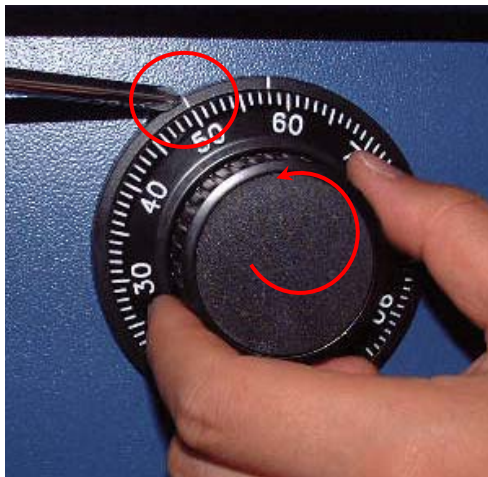

Fig.5.1
- 3) Turn to the counterclockwise for more than four times and set to "50" at left scale indicator as shown in the Fig.5.1.